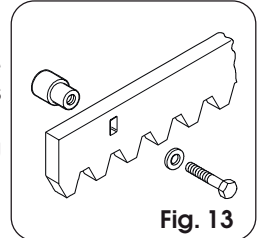

Fig. 13
4.4.1. STEEL RACK TO WELD (Fig.13)